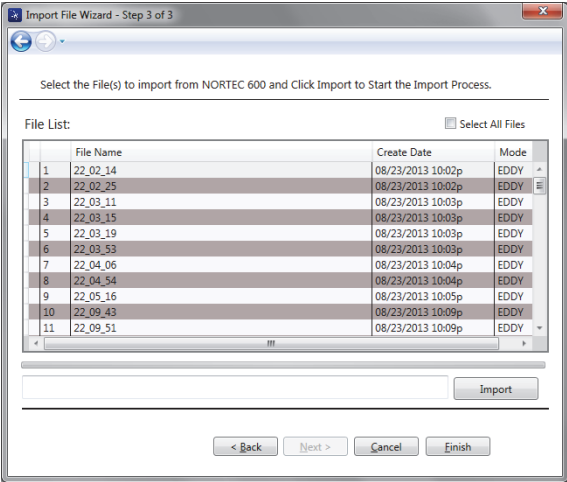

Figure 6-3 The Import File Wizard file selection
- 3. Select the files to import (or, select **Select all files** to import all files), and then click **Import** (see Figure 6-3 on page 305).